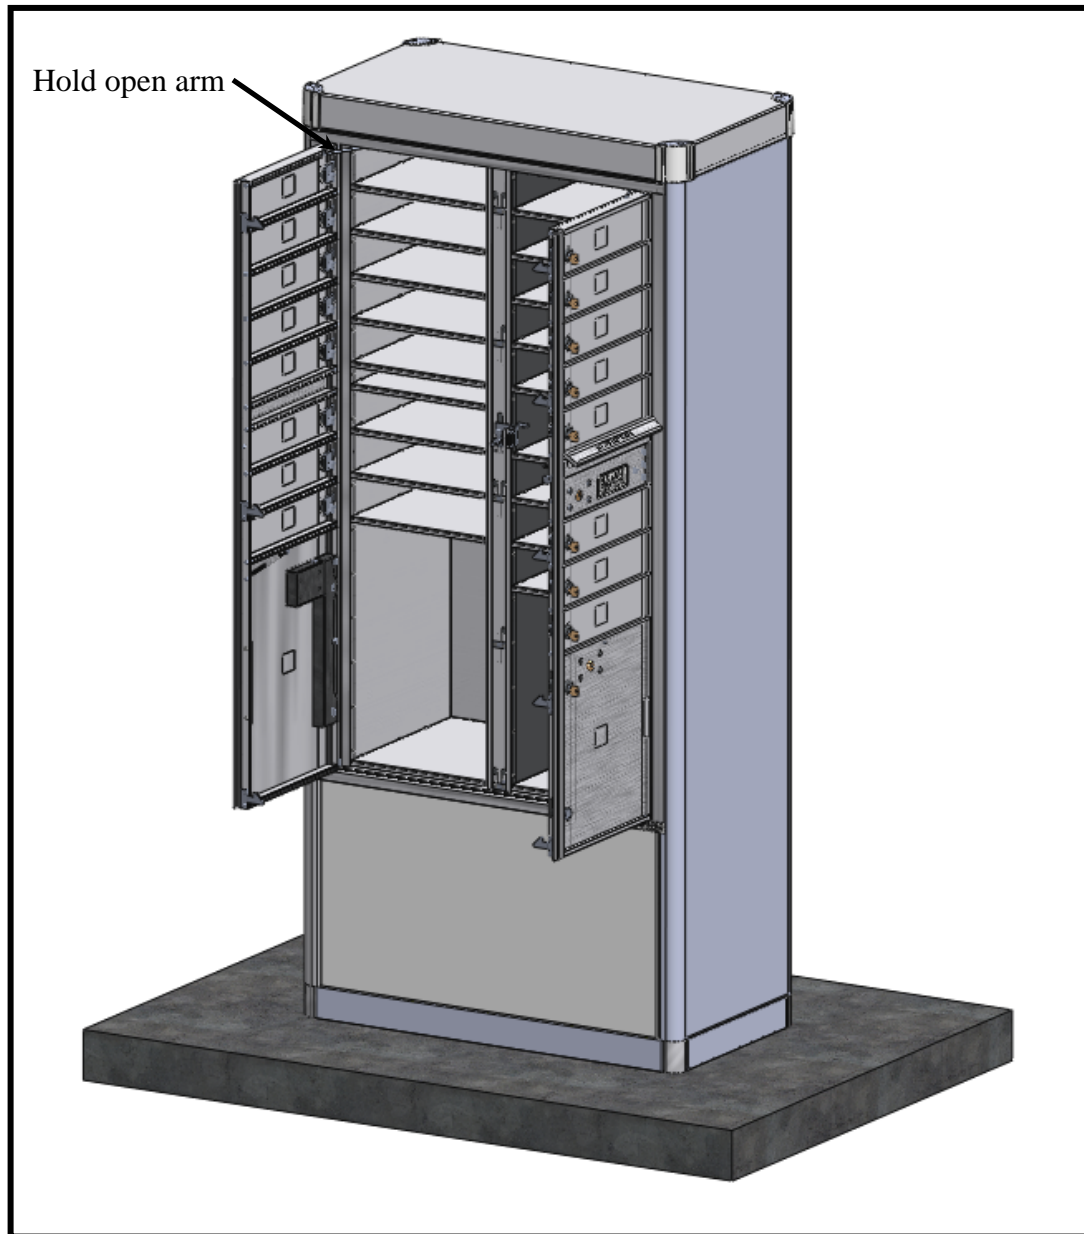

Figure 18 – versatile™ 4C mailboxes shown with master load doors open
- c) Open the master doors of the versatile™ module so the hold-open arms secure the doors in the open position. See Figure 18.